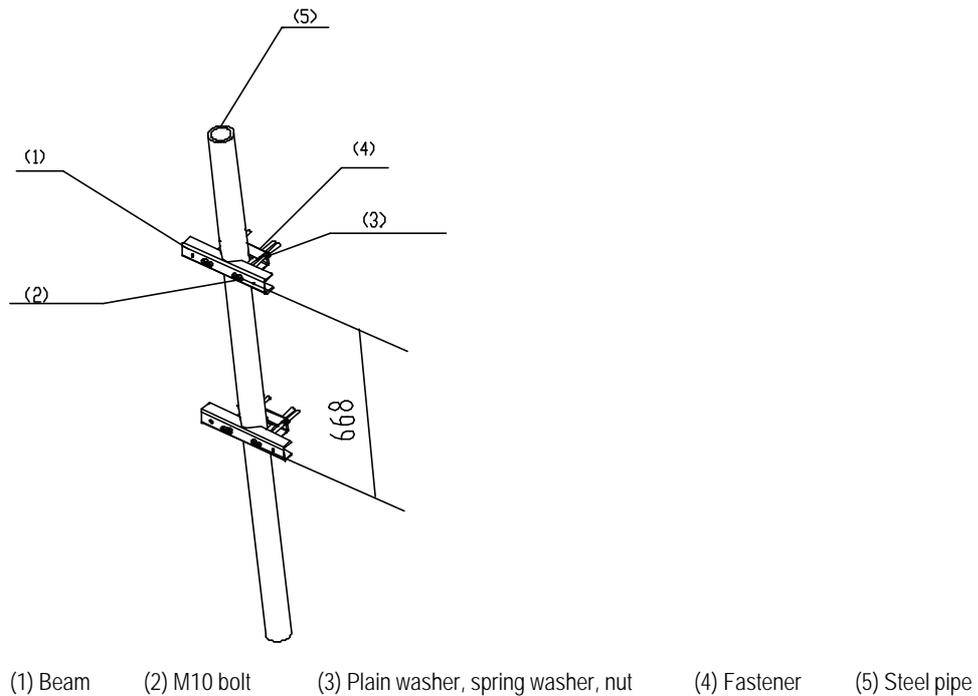

Figure A-5 Installing beam and fastener
- 1) Mount the beam and fastener to the steel pipe with M10 bolt and nut. The pipe is between the beam and the fastener. Then fasten the bolt and nut. See Figure A-5.